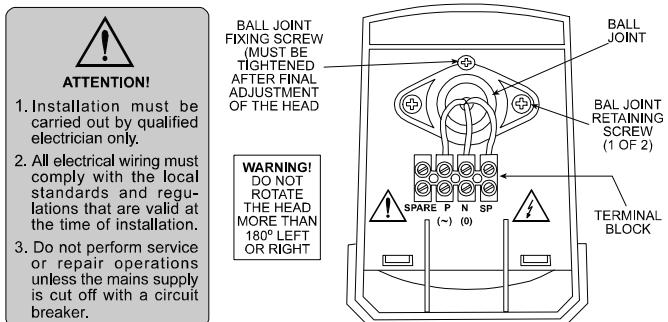

Figure 4. Head with Cover Removed
Only three terminal block connections are required. See Figures 4 and 5.
- Feed the wiring through the selected entryway, pass the wiring upward through the opening in the head, and connect the wires to the terminal block in the head (see Fig. 4 and 5).
- Slightly release the two ball joint retaining screws in the head (Fig. 4) and position the detector in the direction of the area to be covered.
- D. Check that all wiring and connections are correct. Refer to Figures 4 and 5.
- The neutral supply wire should be connected to the **N (0)** terminal of the GL and to the neutral input of the lighting device(s).